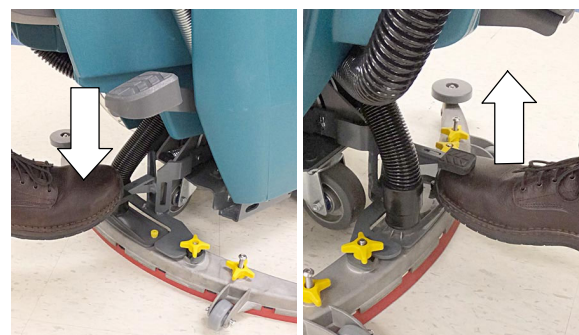

FIG. 68
5. Lower the squeegee assembly to floor by stepping on foot pad as shown (Figure 68). To raise squeegee assembly, place toe under foot pad and lift. The vacuum motor will start when squeegee assembly is lowered.